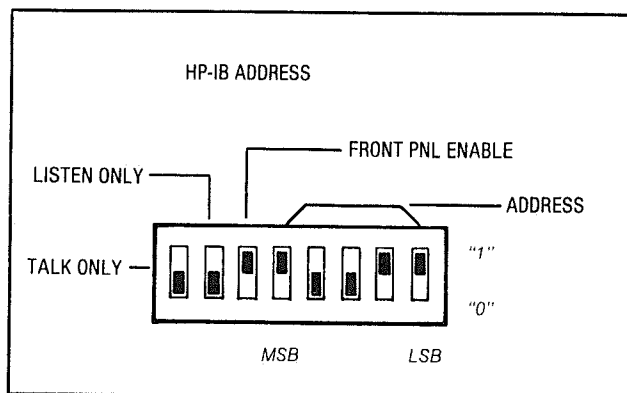

Figure 2-3. HP-IB Address Switch Shown as Set by the Factory
e. Set the switches to the desired HP-IB address (in binary) and the Talk Only or Listen Only condition. The switch is illustrated in Figure 2-3. If both the Talk Only and the Listen Only switches